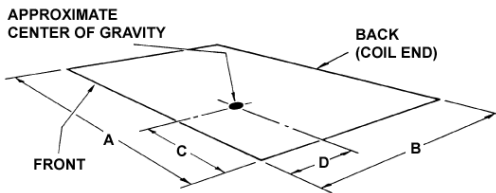

FIGURE 1 - CENTER OF GRAVITY
A minimum of two (2) beams are required to support each unit. The beams should: (1) Be positioned perpendicular to the roof joists. (2) Extend beyond the dimensions of the unit to distribute the load on the roof. (3) Be capable of adequately supporting the entire unit weight. Refer to Figure 1 and Table 1 for load distribution and weights.
A unit can also be supported by concrete piers. These piers should (1) extend below the frost line, (2) be located under the unit's four corners, and (3) be sized to carry the entire unit weight. Refer to Figure 1 and Table 1 for the center of gravity and unit weight.